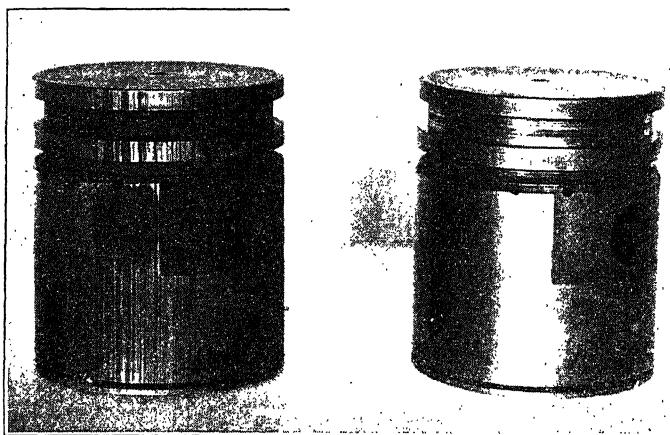

Fig. 12. Two Pistons from the Same Engine
**Failure of Lubrication System.** Fig. 12 illustrates a pair of pistons taken from the same engine after forty-two thousand miles of service. The one piston is in perfect condition except for the normal wear. The cylinder from which it came was likewise in good condition. The piston at the left is badly scored and the cylinder it came from was also badly scored. The condition was due to the failure of the lubrication system together with an accumulation of carbon between the piston and cylinder walls. When